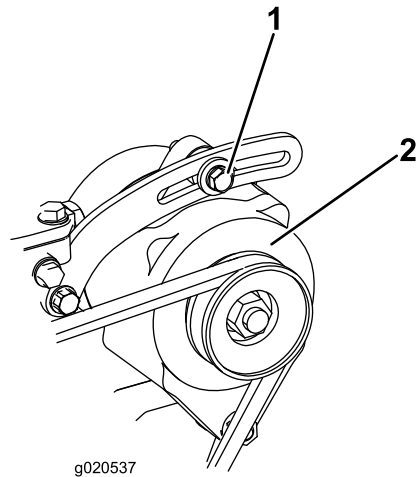

Figure 64
Check the condition and tension of the belt (Figure 64) after every 100 operating hours.
2. If the deflection is not 10 mm (3/8 inch), loosen the alternator mounting bolts (Figure 64). Increase or decrease the tension of the alternator belt and tighten the bolts. Check the deflection of the belt again to ensure that the tension is correct.